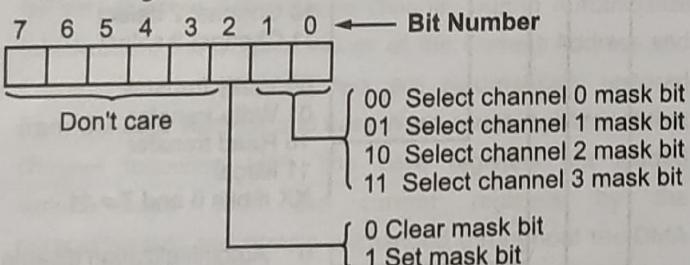

Fig. 5.13 : Mask register
- This disables all DMA requests until a clear Mask register instruction allows them to occur. The instruction to separately set or clear the mask bits is similar in form to that used with the Request register. See Fig. 5.13 for instruction addressing.